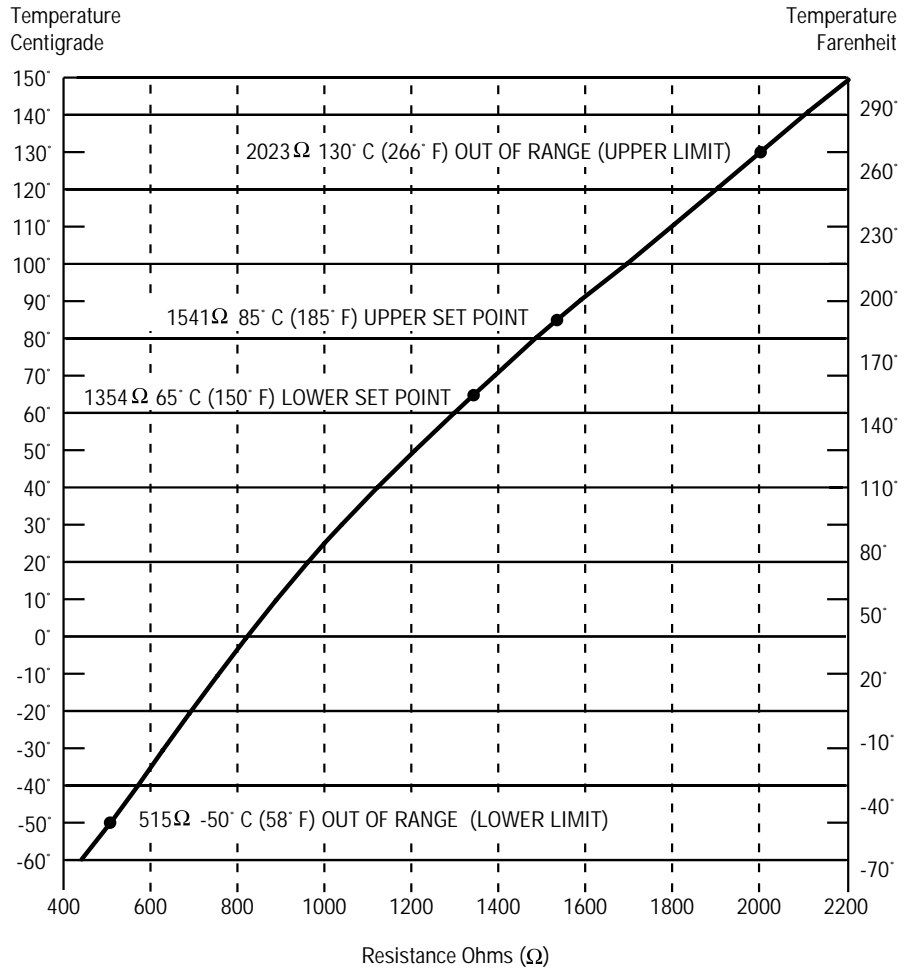

Figure 5-5 Coolant Temperature Sensor Graph
- c) Compare the measured values against the graph (*Figure 5-5*). If values do not approximately match, then the sensor is defective and must be replaced.